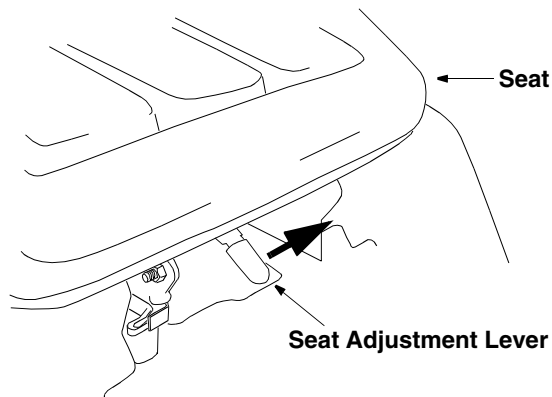

Figure 10
- Remove the clevis pins and hairpin clips from the deck roller brackets on the left and right sides of the cutting deck. See Figure 10.
with the clevis pins and hairpin clips just removed. See Figure 10.
To adjust the position of the seat, move the seat adjustment lever (located under the seat) to the left and slide the seat forward or backwards. See Figure 10. Make sure seat is locked into one of the six adjustment positions before operating the tractor.